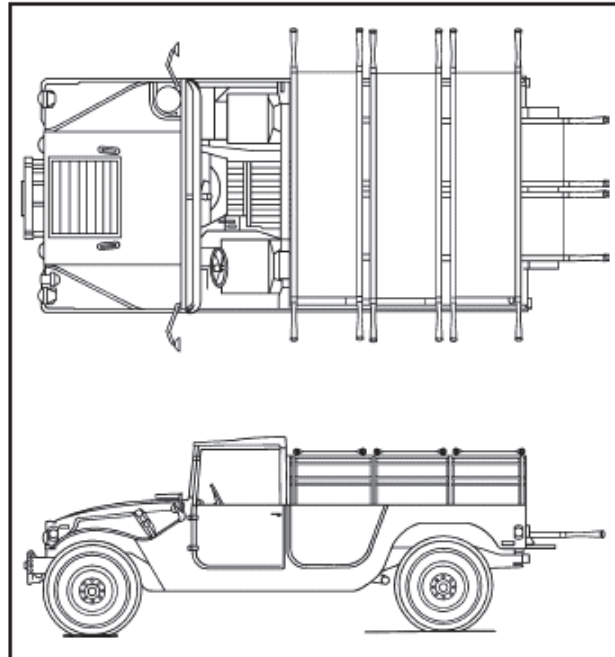

Figure 3-18. Load an M998
3. Direct nonmedical Soldiers to load a M998 (two-seat configuration). (See Figure 3-18.)